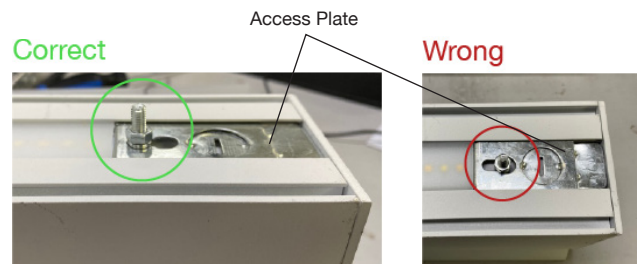

Fig. 12
2. Remove the access plate (**Warning:** only tighten the screws after removing the access plate from the fixture housing). (Fig. 12)